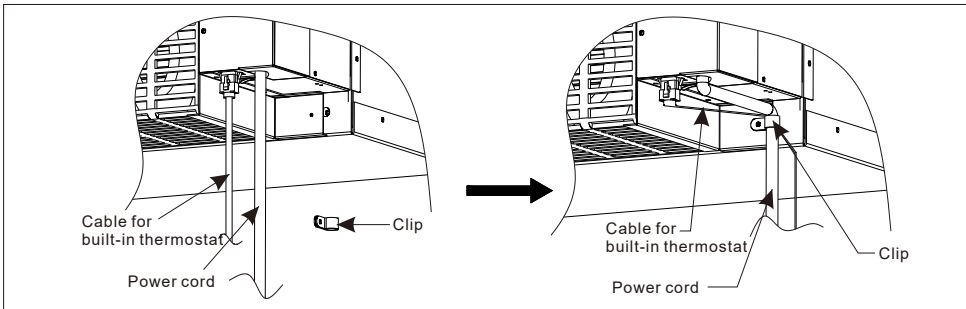

Fig.04 CLAMP POWER CORD AND CABLE
- Use wire clamp to attach power cord and cable for built-in thermostat to base pan, see Fig.04